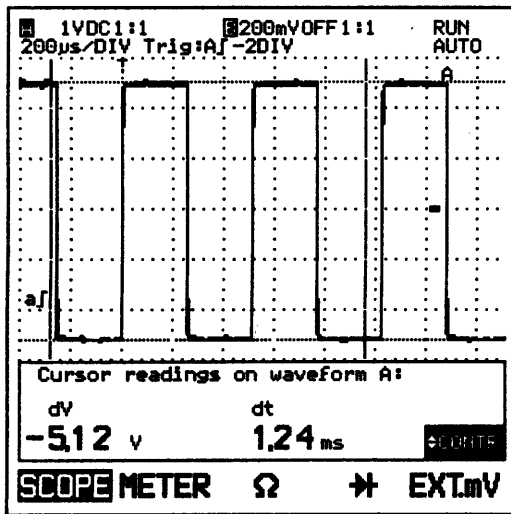

Figure 4.16 Generator square wave signal.
- I The display will look like Figure 4.16. The generator must produce a square wave signal with an amplitude of 5V and a frequency of 1.95 kHz (typical values).